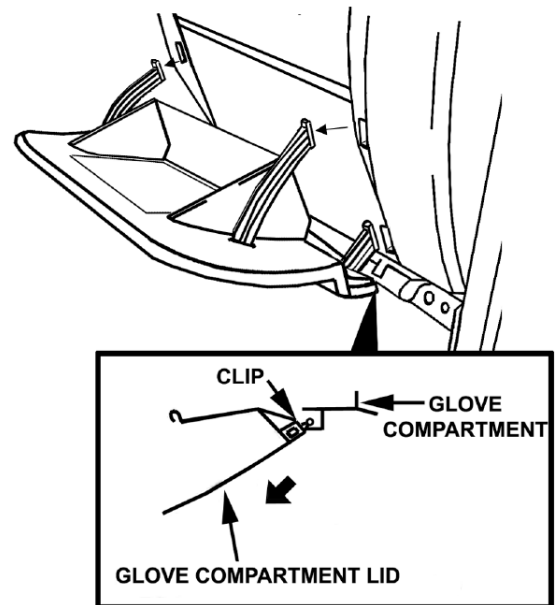

FIGURE 24
- 3.) PULL THE GLOVE COMPARTMENT LID OUTWARD WHILE LOWERING IT TO THE POSITION AS SHOWN THEN DETACH THE CLIP AND REMOVE THE GLOVE COMPARTMENT LID. (SEE FIGURE 24)